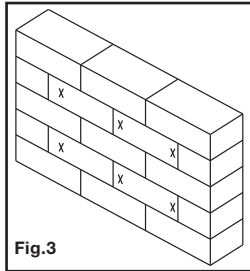

Fig.3
2. While another person holds the wall plate in place, mark six evenly spaced locations on the wall for securing the mount (see Fig. 3).